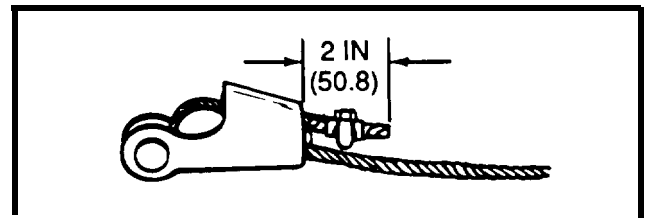

Figure 2-4. *Clamped Cable*
5. With no more than 2 in. (50.8 mm) of cable protruding, clamp dead end of cable with a cable clamp (Figure 2-4).